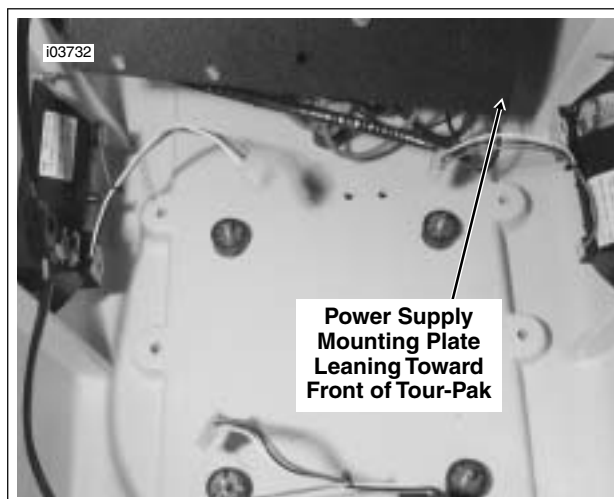

Figure 8-34. Provide Room For Mounting Tour-Pak
4. See Figure 8-34. Set power supply aside temporarily. Raise and position (lean) the mounting plate up against the front side of Tour-Pak to provide access to the Tour-Pak permanent mounting holes. If necessary, use a cable strap to hold plate in place. Temporarily set Tour-Pak assembly aside.